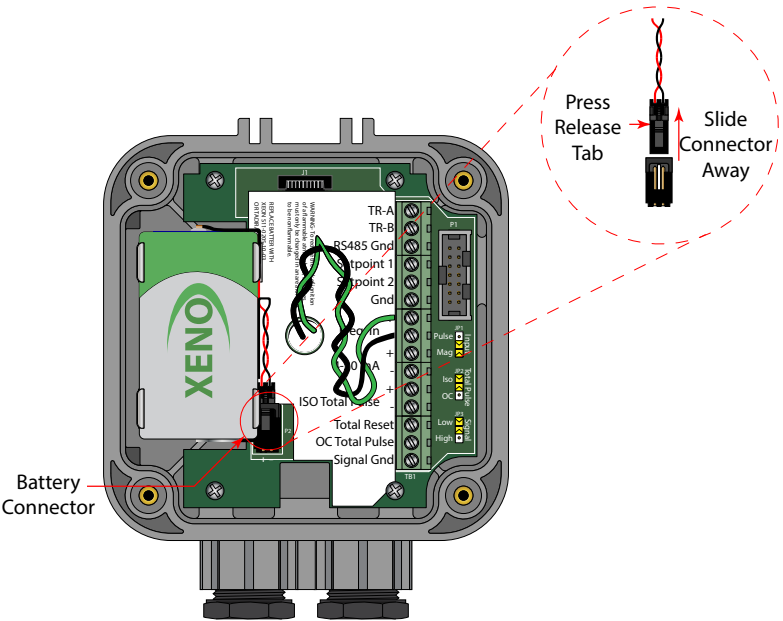

Figure 14: Battery connection release
2. Press the tab on the battery connector to release it from the circuit board (see Figure 14).